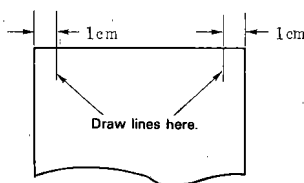

Figure 4-10
- 1) Draw a line 1 cm from both sides on copy paper (A4 or A3; Figure 4-10).